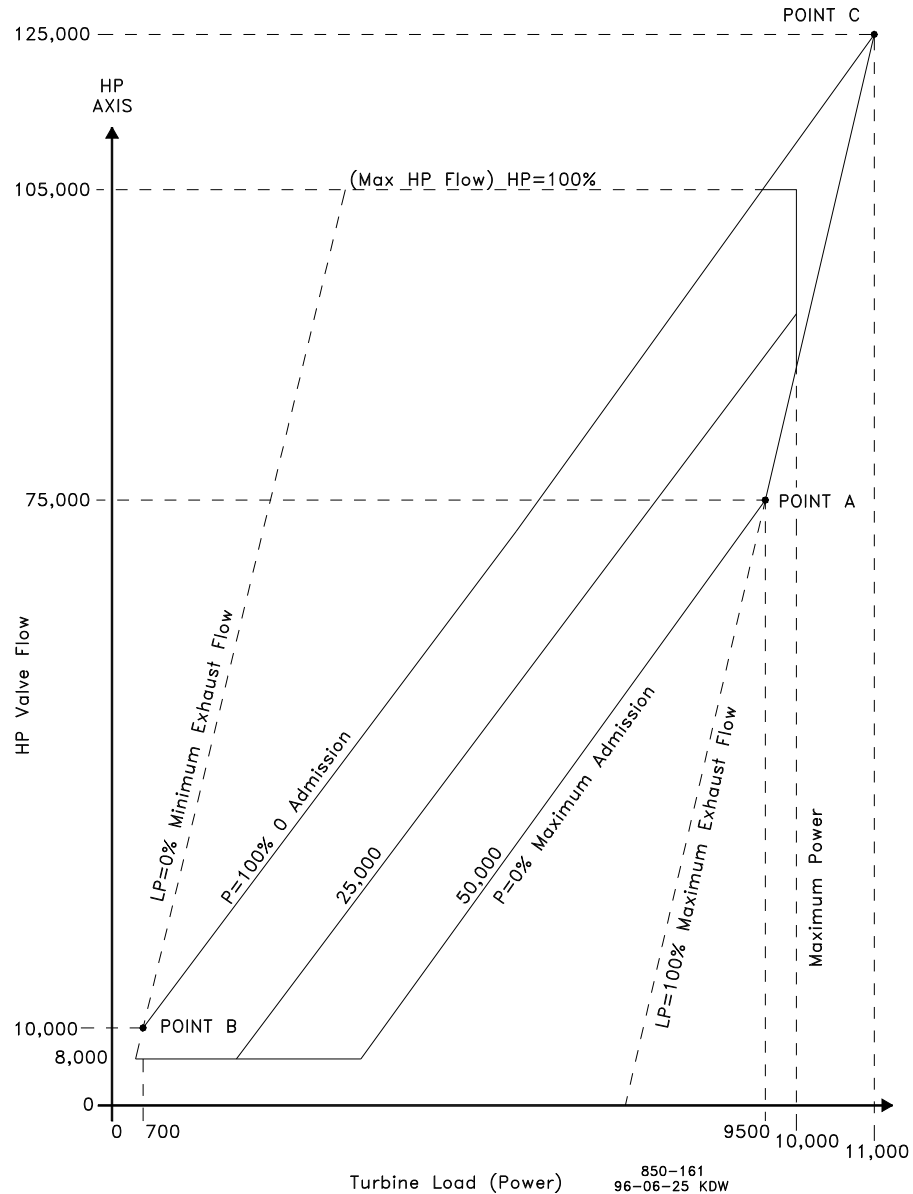

Figure 3-2. Typical Admission Steam Map
Before a turbine's admission steam map can be programmed into the control, it must have the intersection points A, B, & C (refer to Figure 3-2).
If only point A exists, your map will have to be modified to include points B & C. The LP=0 line will need to be created. To create the LP=0 line you must know the minimum required steam flow through the back-end of the turbine. In our example steam map (figure 3-2) the minimum required flow was 10,000 lbs/hr.
1. Extend the zero admission (or induction) line ($p=100\%$). Refer to figure 3-2.
The nine values needed can be taken from the converted steam map. An example has been provided using the steam map in Figure 3-2.